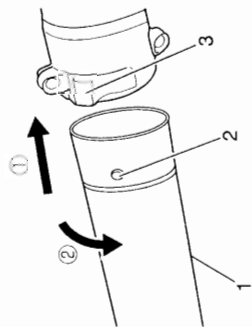

Fig. 1
**Blow pipes to main body (Fig. 1)**